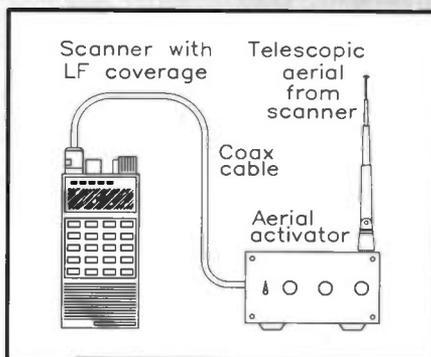

Figure 8e. Telescopic aerial and scanner.
Figure 8e shows a typical set up using a scanning receiver with low frequency (LF) coverage, with the Aerial Activator, and the telescopic aerial from the scanner.